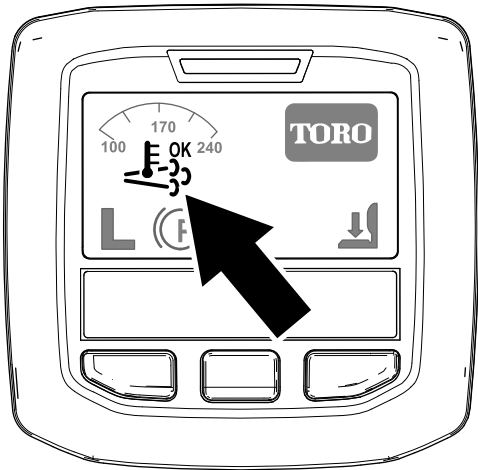

Figure 42
- The assist/reset-regeneration icon displays in the InfoCenter (Figure 42).